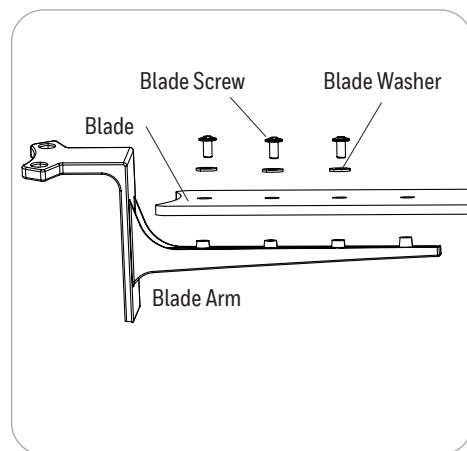

Figure 4.3
3. Partially insert three blade screws, along with their washers, through the blade and into the blade arm. Tighten each blade screw with a Phillips screwdriver (not included), starting with the one in the middle. Repeat this step for the remaining blades and blade arms (Figure 4.3).